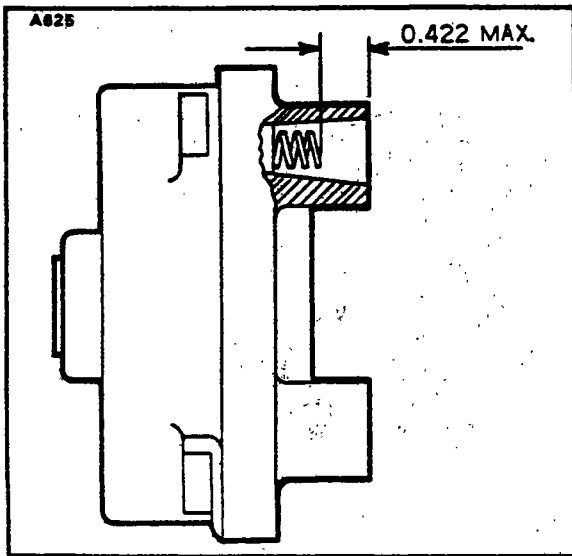

Figure 8-14. Contact Spring Inspection
1. Inspect distributor block contact springs. Top of spring must not be more than .422 inches below top of tower as shown in Figure 8-14. If broken or corroded, they should be replaced.